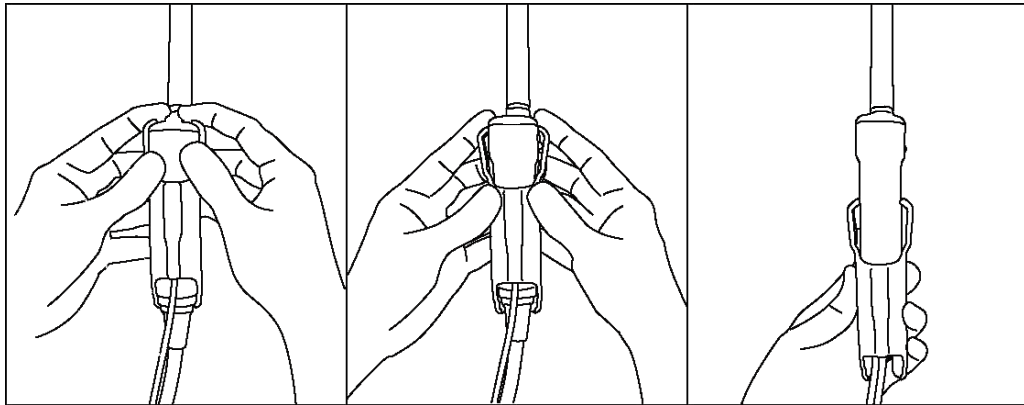

Figure 11 How to release Magnetic Position Sensor Attachment
- (1) Release the magnetic position sensor attachment from the probe as shown in Figure 11.